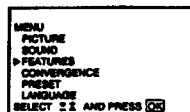

Fig. 21
- 2 Select "FEATURES" with Δ+ or ∇- and press OK. The FEATURES menu appears. (See Fig. 21.)